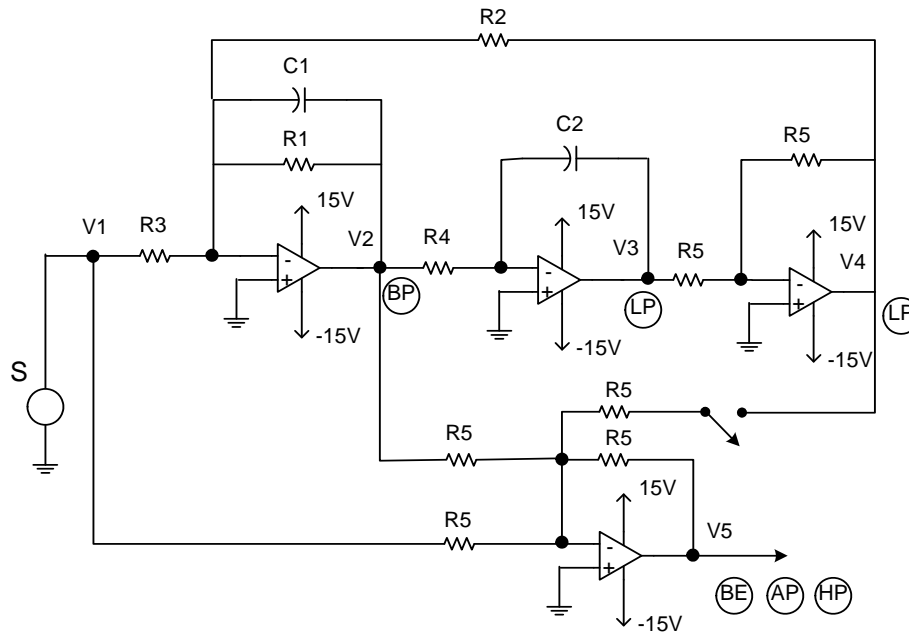

FIG. 1
The four opamp biquad shown in Fig. 1 can produce the general transfer function:
1. Derive the transfer function V_2/V_1 in Fig.1, and identify the terms k_1 , k_2 , k_3 , ω_o and Q , in terms of the circuit elements (i.e., R_1 , R_2 , R_3 , .. C_1 , and C_2). What value of R_3 yields unity gain at the pole- frequency ω_o ? What is the type of the filter?
2. Build the biquad circuit shown in Fig. 1 using the closest values of C available. If the value of C is not the same as obtained in part 1, recalculate the cut-off frequency f_o .
3. Apply 1V, peak-to-peak sinusoidal signal to the circuit, and sweep the frequency from 100 Hz to 15 KHz in step 500 Hz. Keep the switch **closed**. Measure voltages at the nodes for V_2 , and V_5 (as shown in Fig.1). Take more readings at smaller intervals, around the cut-off frequency.